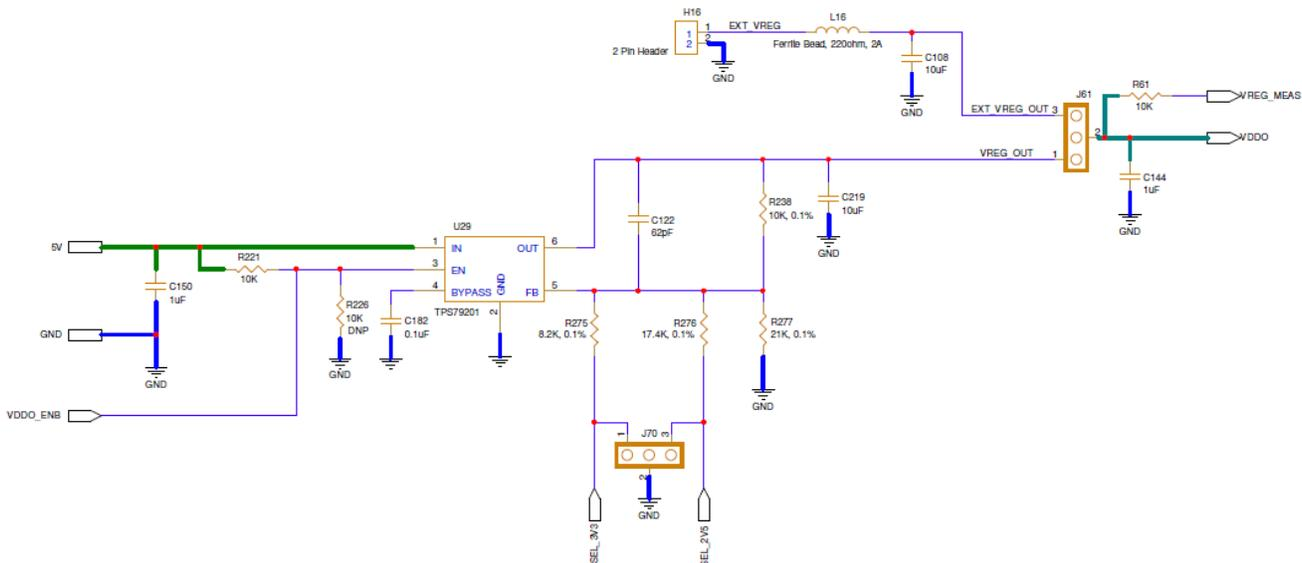

Figure 5. Supply Regulator for VDDIN and VDDOX Supply
**Note:** For changing the LDO Output Power Supply Voltage, connect the corresponding Jumpers (for ex- J70) in Figure 5 to below settings: